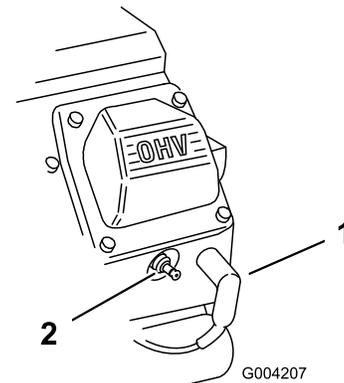

Figure 38
3. Pull the wires off the spark plugs (Figure 38).
3. Push the wires onto the spark plugs (Figure 38).